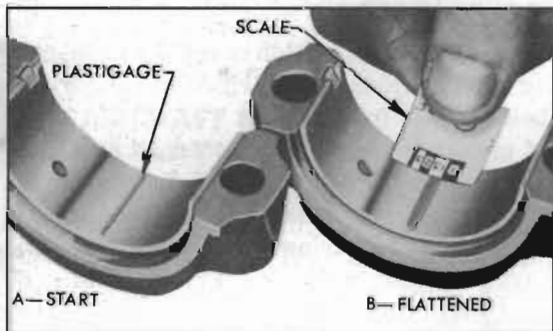

Figure 2-26—Checking Bearing Clearance with Plastigage
3. Place a piece of Plastigage lengthwise along the bottom center of the lower bearing shell (fig. 2-26, view A), then install cap. Tighten bolts to 40-50 ft. lbs. torque on *Series 40-50 engine*, or to 60-65 ft. lbs. torque on *Series 70 engine.* NOTE: *The conical boss on web of rod and the rib on edge of cap must be toward rear of engine.*
6. Using the scale printed on the Plastigage envelope, measure the width of the flattened Plastigage at its widest point. The number within the graduation which most closely corresponds to the width of Plastigage indicates the bearing clearance in thousandths of an inch. See figure 2-26, View B.